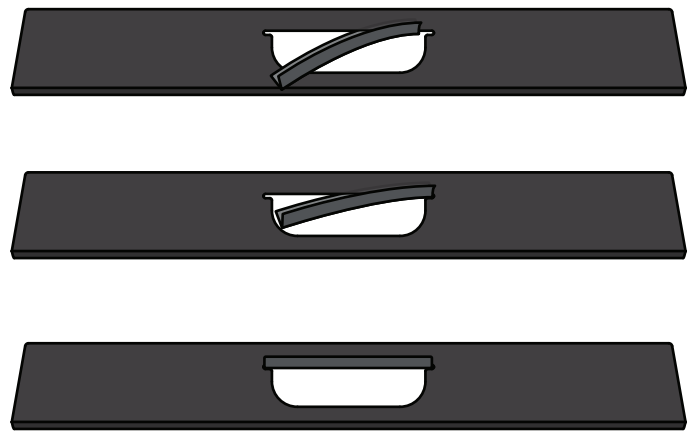

FIG. 1a
- Insert the Handle Gasket (H2) into the Handle's opening (open, ribbed-side facing upwards) and push it onto the Stand Body's handle (F) so that it is fully covering the top edge [FIG. 1a].